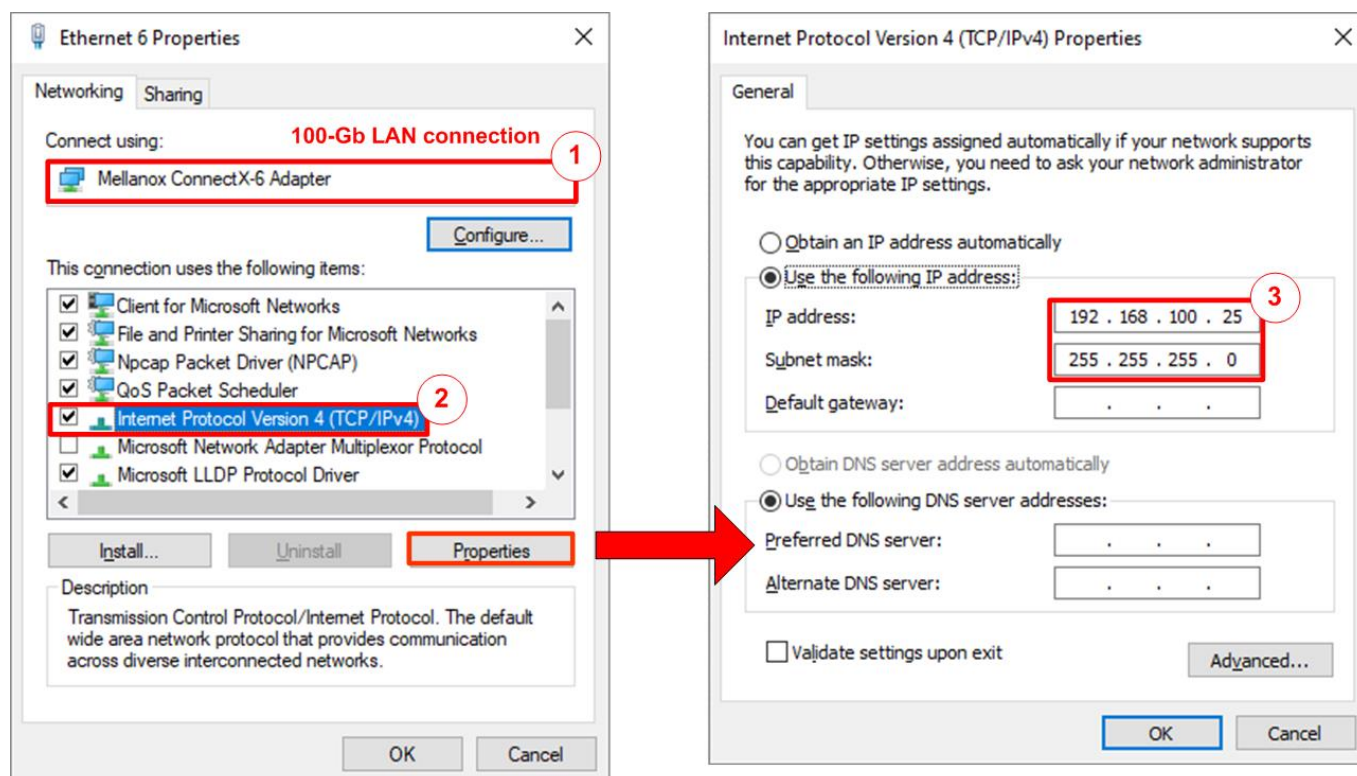

Figure 2-1 Setting IP address for PC
- 1) Open Local Area Connection Properties of 100-Gb connection, as shown in the left window of Figure 2-1.
- 3) Set IP address = 192.168.100.25 and Subnet mask = 255.255.255.0, as shown in the right window of Figure 2-1.